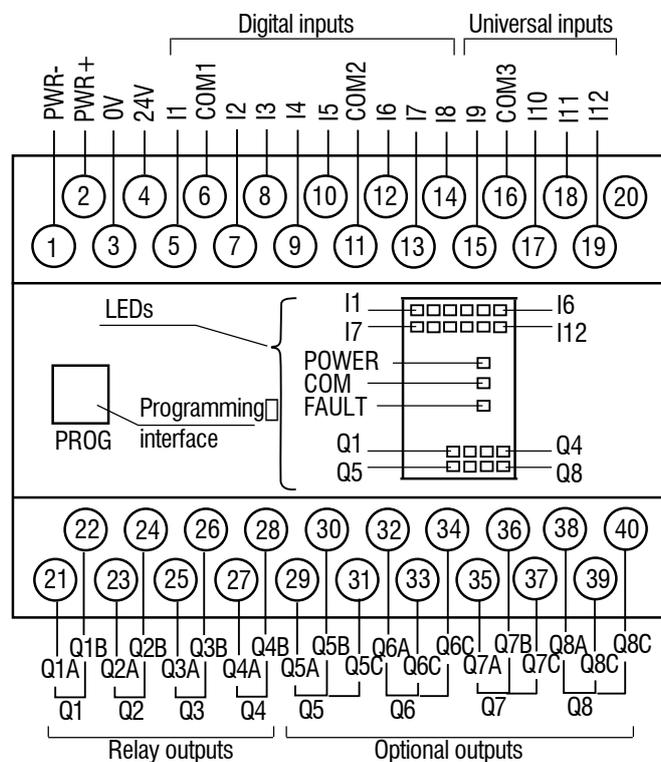

Fig. 5.1 Terminal blocks
- The terminal strips are shown in Fig. 5.1 and the terminal assignment is given in Table 5.1.